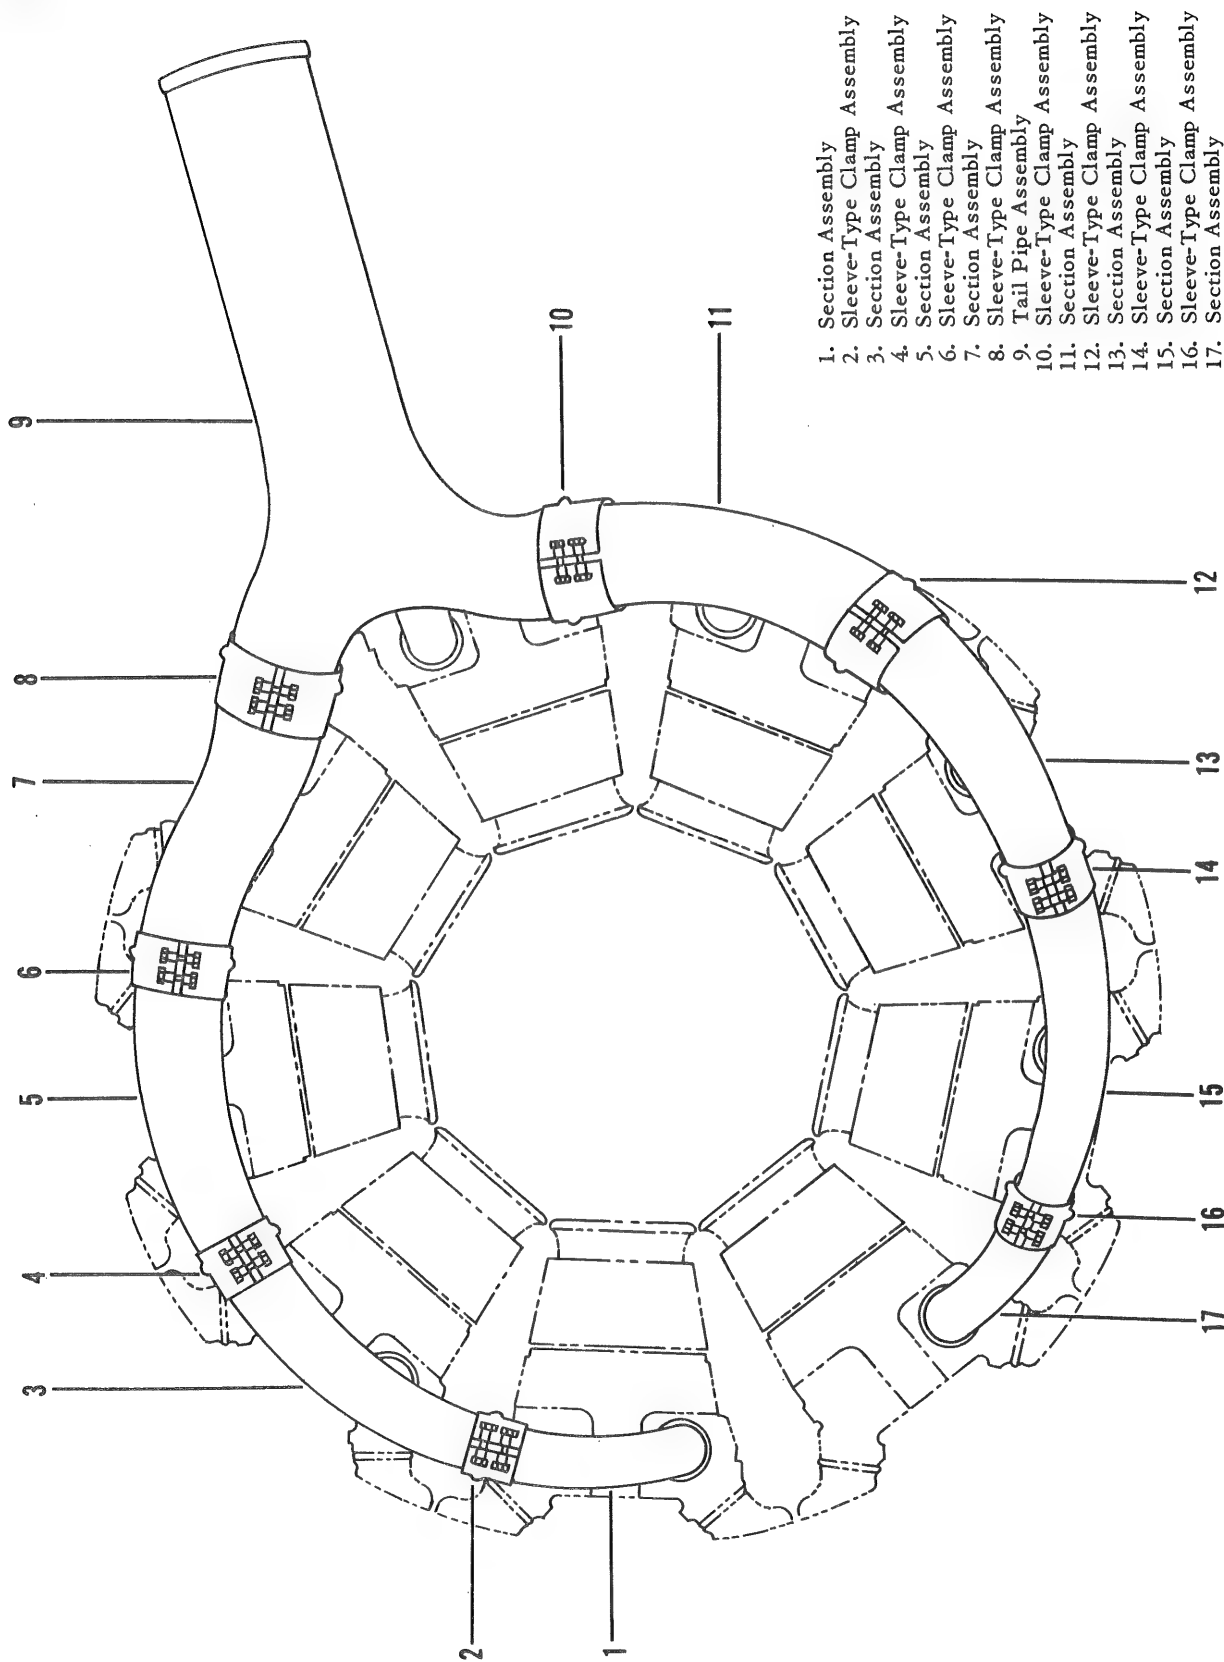

Figure 3-43. Exhaust Collector (Part No. S1630-80965)
3-139. INSTALLATION. (See figure 3-43.)
b. Position ring-type clamp (2, figure 3-36) on inlet port of tail pipe assembly (9, figure 3-43).
c. Install tail pipe assembly (9) to exhaust port of cylinder No. 3. Secure loosely with ring-type clamp.
Do not install section assembly (5, figure 3-43) until engine control support assembly has been installed.